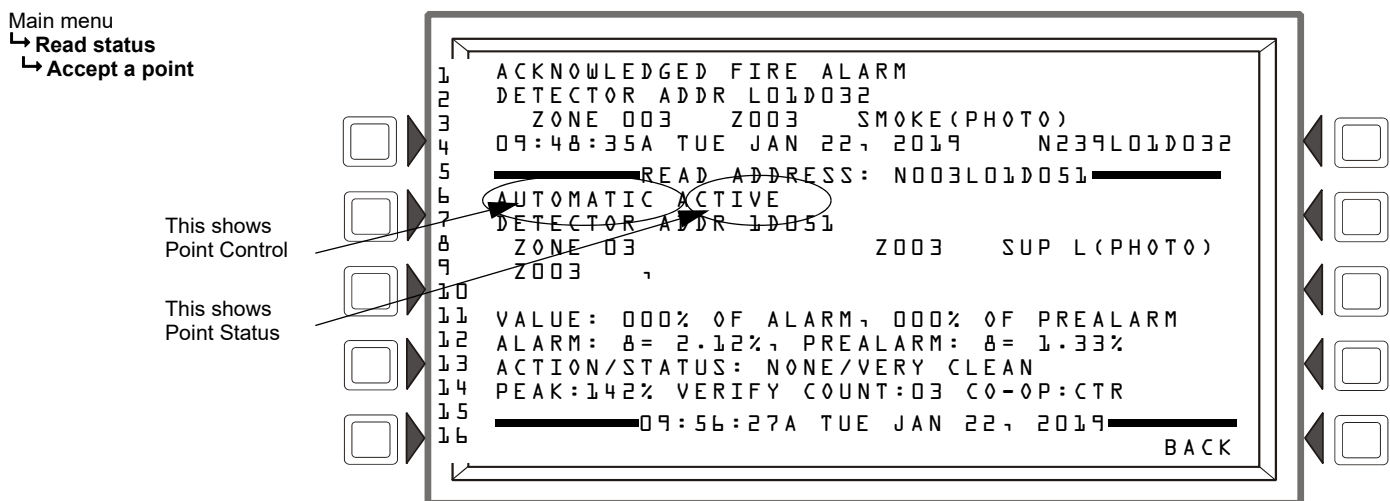

Figure 4.13 Read Status Details - Smoke Detector Point Installed on an NFS-320 or NFS2-640
After you have set all parameters, press the ACCEPT soft key to accept or <ESC> to cancel the request. Once the NCA-2/C reads the point, it will display the Read Status screen (see Figure 4.13).
Figure 4.13 shows a sample status screen for a smoke detector point. Following is an explanation of the screen elements:
- Line 14 shows PEAKS, which is the highest value read by the device. Also shown is VERIFY COUNT, which displays how many times the panel detected an alarm. This verification aids in differentiating false alarms from actual ones by showing repeated alarm events that have come in on this device. The last element on this line is Detector Cooperation (DET CO-OP: CTR in Figure 4.13). Detector cooperation is when multiple detectors exist in close proximity and are programmed to operate together in order to make smoke detection more accurate. The text after the colon can be an abbreviation denoting detectors used together to detect smoke. Refer to Table 4.3 for detector cooperation abbreviation descriptions.